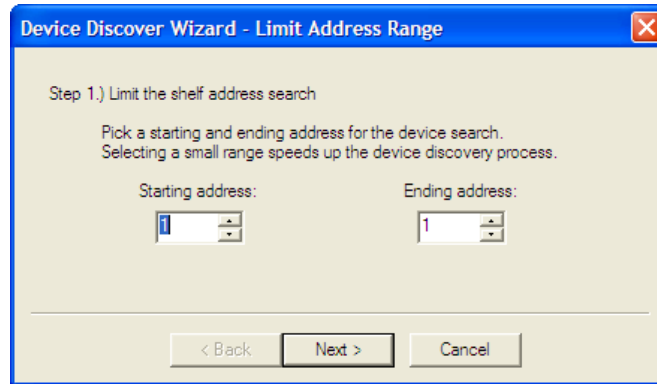

Figure 5-6. Limit Address Range Dialog Box
2. Point to **Device Configuration** and click **Auto Detect Devices**. The **Device Discover Wizard** dialog box appears (Figure 5-6).